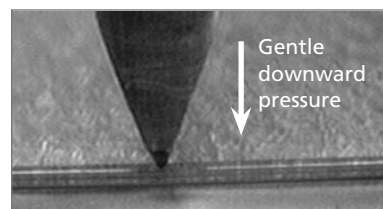

FIGURE 10 Cleaving tool in proper position
1. Place the tubing to be cut on a flat, clean surface and position the cleaving tool perpendicular to the tubing surface, as shown in Figures 10 & 11B. The long axis of the blade should be perpendicular to the tubing bore.